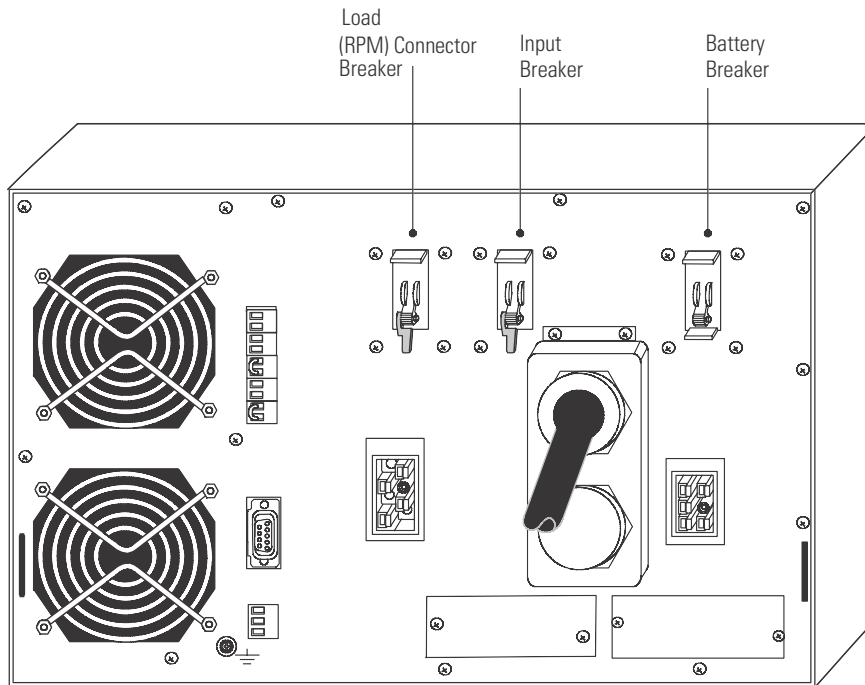

Figure 24. BladeUPS Module Rear Panel
1. Verify that all battery circuit breakers on all UPSs are in the OFF (O) position (see Figure 24).